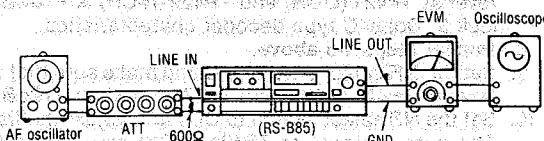

Fig. 19
1. Make connections as shown (See fig. 19).